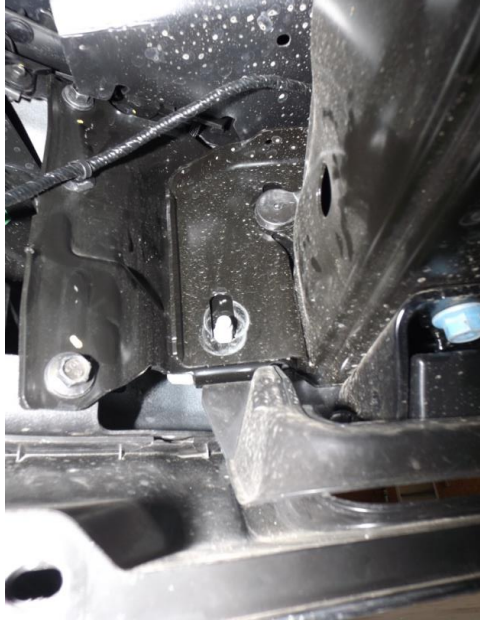

Figure 2c
- B. Using 21 mm socket, remove the three nuts per side, two are located under the plastic center piece (ref. fig. 2a-b) and the third accessible from the back of the frame (ref. fig. 2c). If front OEM bumper contains adaptive cruise control module (ref. fig. 2b). If your bumper includes adaptive cruise control module , remove it now using an E6 socket. Unplug the device.